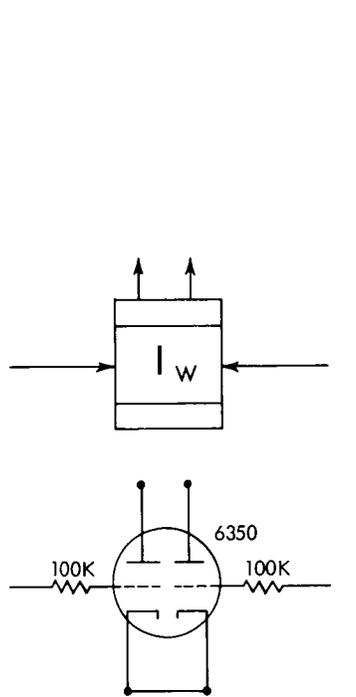

FIGURE C26A. WRITE INVERTER --  $I_W$
The IW (Figure C26A) is used in the 729 I Magnetic Tape Unit. The circuit is driven by a standard trigger (T) coupled to the grids through 100K resistors. The plates are connected to the read-head windings on each side of the common. The cathode is grounded. A 6350 tube is used.